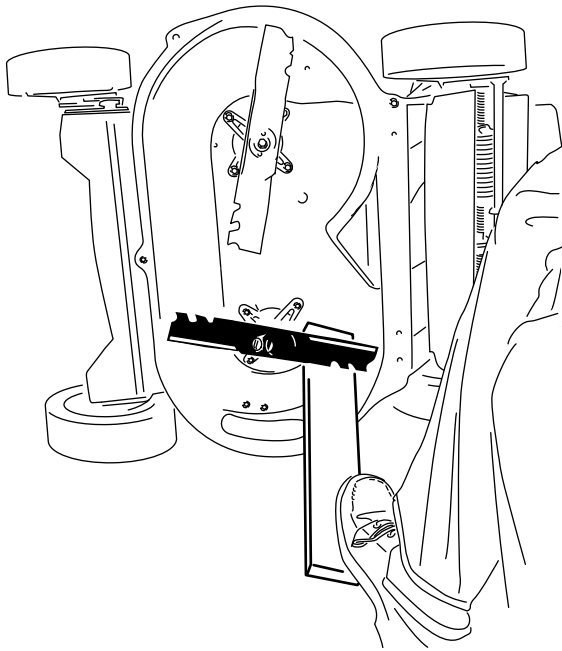

Figure 1
6. Use a block of wood to hold each blade steady (Figure 1).